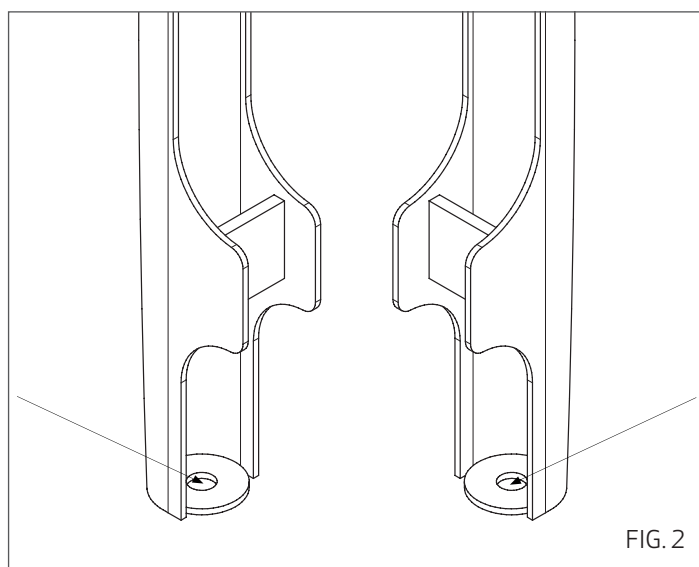

FIG. 2
- 3** Using a pencil, mark the drill holes in each foot base (FIG 2)